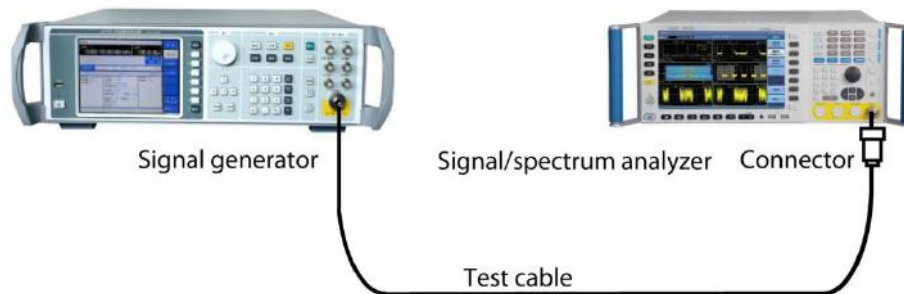

Fig. 4.63 Connection settings of occupied bandwidth measurements
**Step 2. Connect the radio frequency output port of the signal source to that of the analyzer. As shown in Fig. 4.63:**